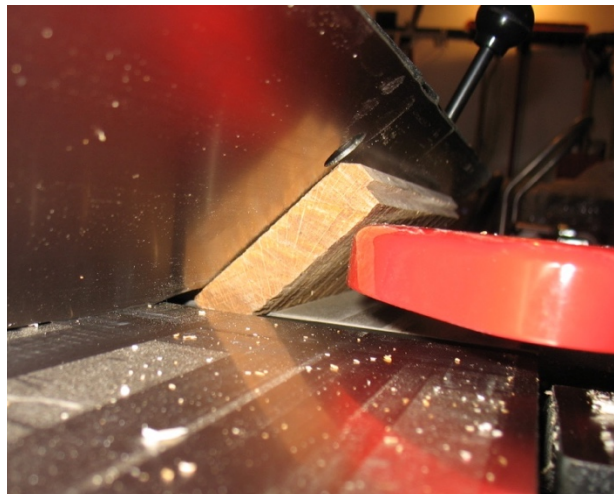

Figure 13: Beveling
5. The fence can be adjusted to 45 degrees angled toward the infeed/outfeed tables or away from the infeed/outfeed tables for beveling. There is less chance of stock slippage when the fence is angled down, toward the tables (Fig. 13). Angling the fence toward the tables is also a safer method to bevel, when the application allows.